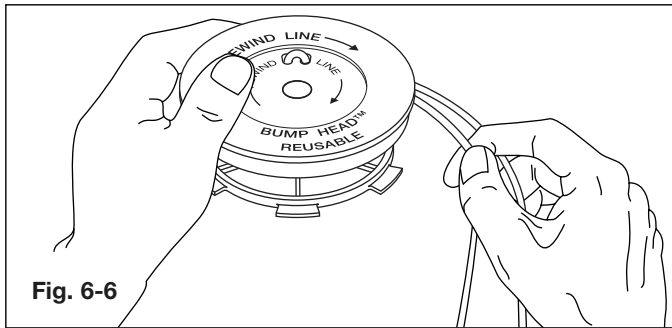

Fig. 6-6
7. Wind the lines in tight even layers, onto the reel (Fig. 6-6). Wind the line in the direction indicated on the inner reel. Place your index finger between the two lines to stop the lines from overlapping. Do not overlap the ends of the line. Proceed to step 11.
8. Take approximately 10 feet (3 m) of new trimming line. Insert one end of the line through one of the two holes in the inner reel (Fig. 6-6). Pull the line through the inner reel until only about 4 inches is left out.